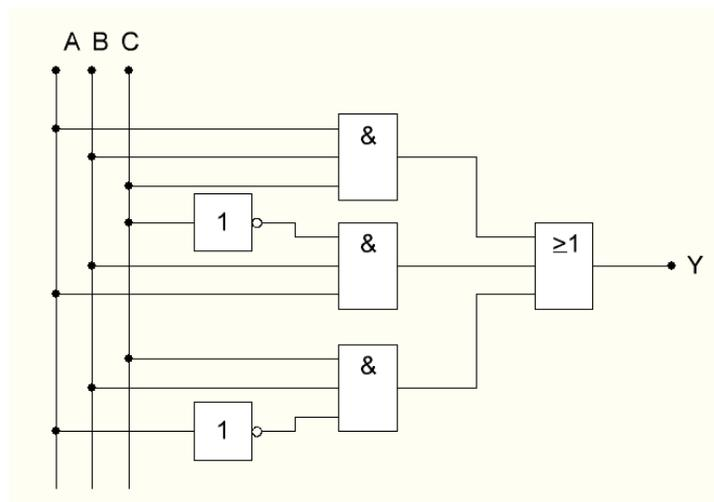

Figure 3.3.1: Schematic diagram of the logic function
3.3.1) The schematic diagram of the logic function is shown in Figure 3.3.1.
The logic function presented in a schematic diagram shown in Figure 3.3.1 is described by the following equation and truth table: